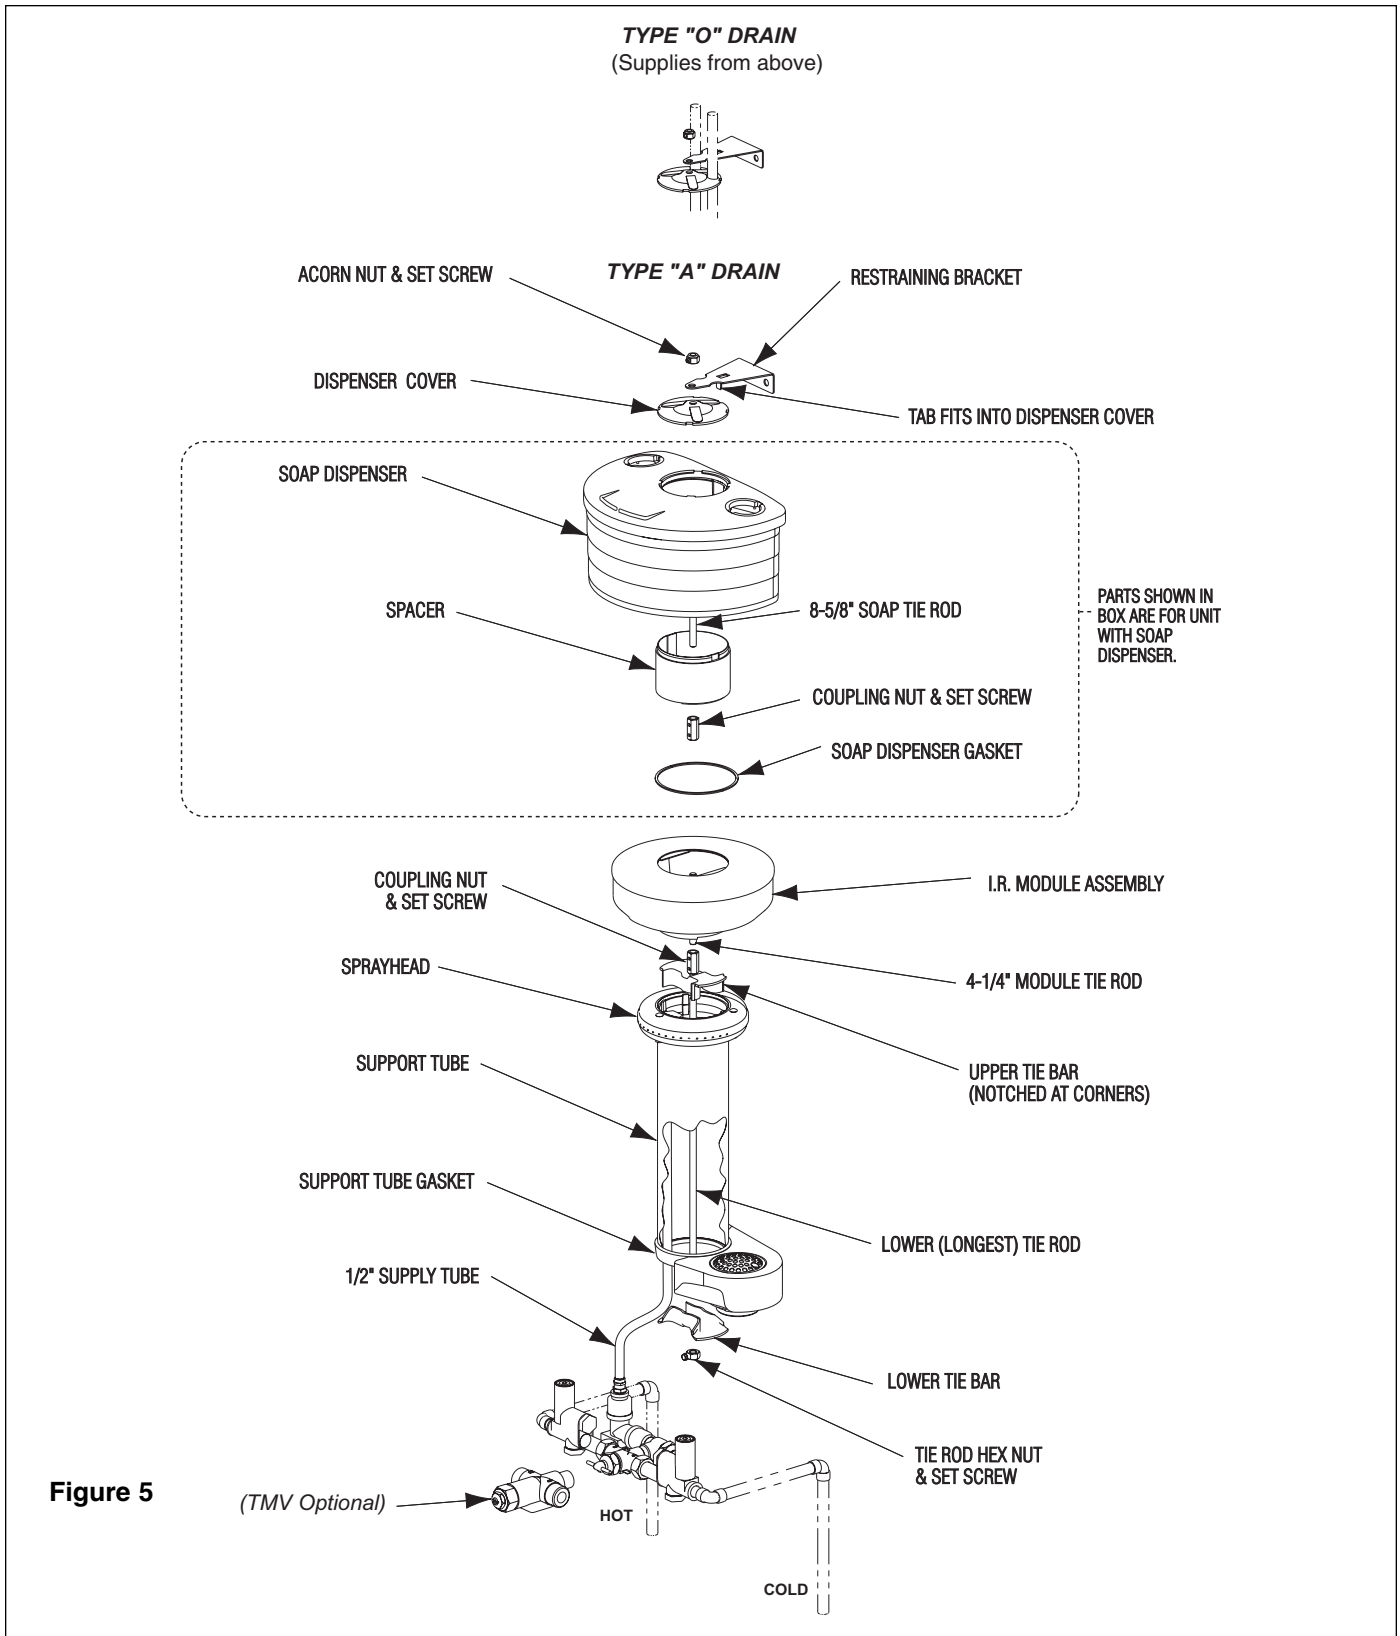

Figure 5
1. Remove all of the components above the top of the support tube. (See Figure 5 or 6).
4. Place sprayhead with 1/2" supply tube attached onto support tube as shown in Figure 5 on page 5. Run tubing down through support tube.
NOTE: Refer to Figure 5 on page 5 for Type A or O drain.
NOTE: For washfountains with Type A or O drain, follow the instructions found on page 4 and refer to Figure 5 on page 5.
NOTE: Refer to Figure 5 on page 5 for installation of unit with Type A or O drain. Refer to Figure 6 on page 7 for installation of unit with Type B or H drain.